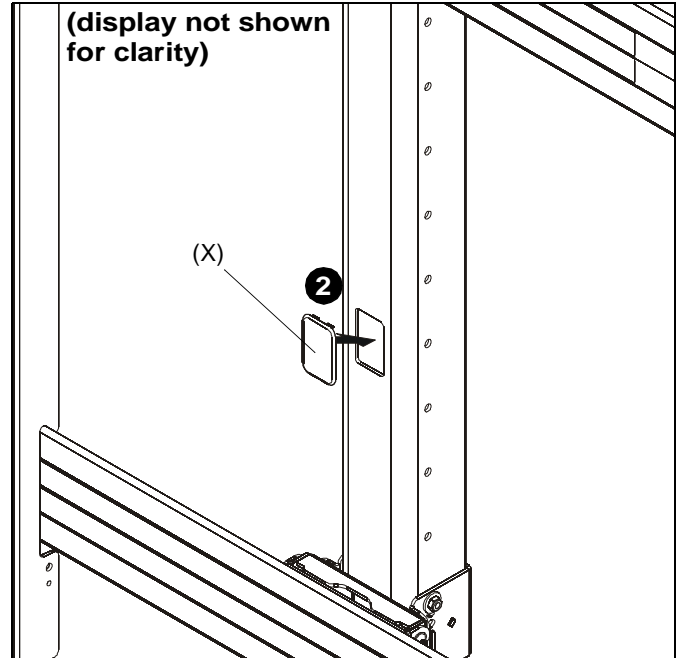

Figure 12
2. For any cable management holes that are not used, snap covers (X) may be used to cover holes as desired. (See Figure 12)